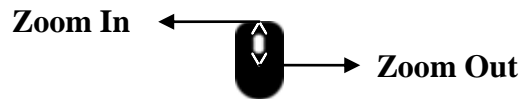

Figure 2-24
**Wheel zoom:** as Figure 2-24 shows, in the wave window, scroll the wheel of mouse will zoom the wave in/out.